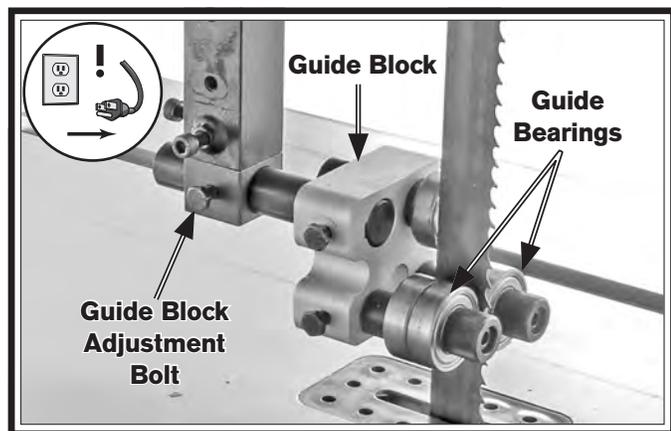
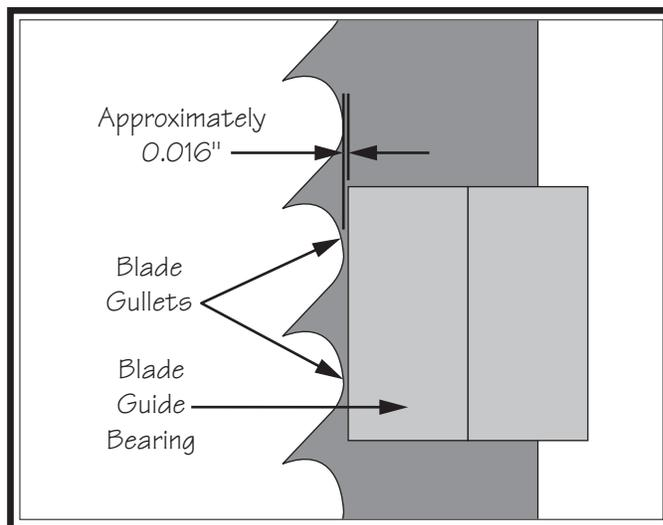

Figure 37. Upper guide bearing components (guide post cover removed for clarity).
Figure 38. Blade guide bearing positioned just behind blade gullets.
2. Loosen guide block adjustment bolt shown in Figure 37, then position guide bearings just behind blade gullets, as illustrated in Figure 38. Retighten bolt to secure setting.